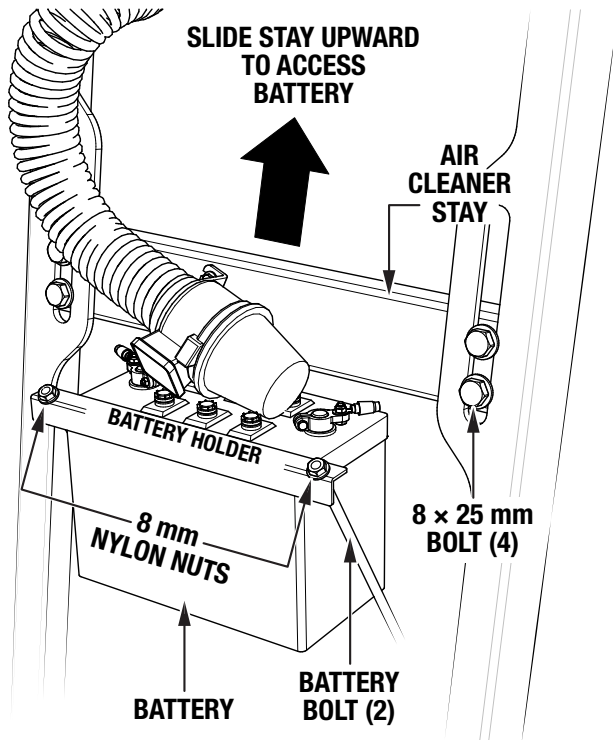

Figure 4. Battery Access
2. Loosen the four 8 × 25 mm bolts securing the air cleaner stay (Figure 4) to the frame.
3. Slide the air cleaner stay upward to access the battery, then tighten the four 8 × 25 mm bolts to secure the stay in place (Figure 4).
4. Remove the two 8 mm nylon nuts from the battery bolts securing the battery holder to the battery (Figure 4). Remove the battery holder and set the holder and fasteners aside.